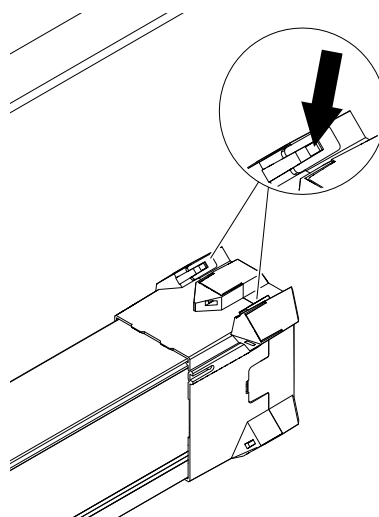

Fig. 119: Disengage narrow clips
- Disengage the narrow clips in the upper area (see Fig. 119).